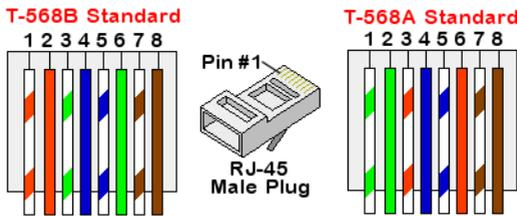

Figure 19: Standard cable wiring
- Insert the eight wires into an RJ45 connector, as described in Figure 19.
- 4 For the switch/router side, use a pre-terminated cable or use a crimper to prepare an RJ45 communication connector: Insert the eight wires into the RJ45 connector in the same order as in Figure 19.